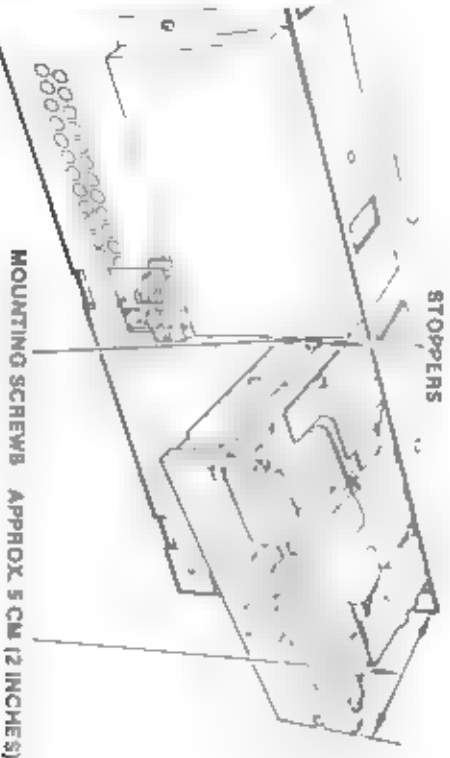

Figure 11-11 Sliding Drive A Forward
1. It may be necessary to slide diskette drive A part way out of its slot in order to attach the cables to drive B. Do this by removing the mounting screws that hold diskette drive A in place, and sliding drive A out approximately 2 inches (Figure 11-11). You can leave all the cables connected.
If necessary in order to attach the cables, slide diskette drive A part way out of its slot. Do this by removing the mounting screws that hold the diskette drive in place and sliding the drive out approximately two inches (refer to Figure 11-11).